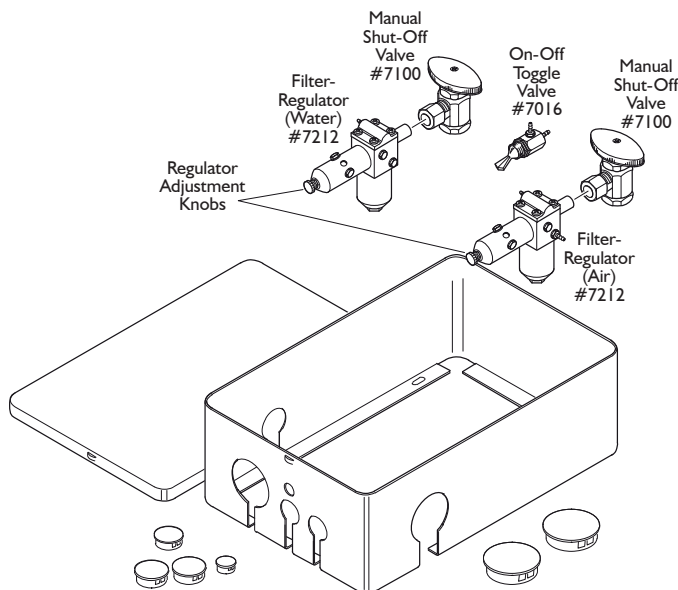

Figure 1
1. Install the manual shut-off valves on the air and water pipes, using pipe compound or Teflon tape. Use a 15/16” wrench to firmly tighten the valves, leaving them facing in the direction shown in (Figure 1).